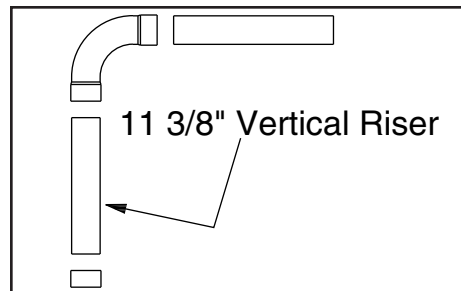

Figure 4: Copper Parts Assembly
8. For air intake, assemble copper tubing parts (see Figure 4) provided with boiler and install assembly on boiler air intake inlet, pointing toward outside wall opening.